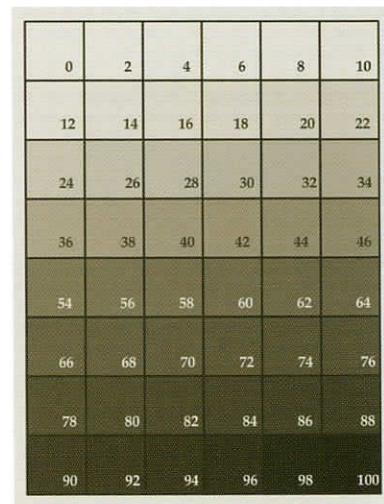

Figure 7-3 A scan of a real test tablet.
If you follow the steps for determining the precise exposure, ideally only the last square in the step tablet (100) will be pure black or DMax. In reality, it is likely that a few squares near to this value will also be pure black. Do not worry about this; the correction curve that you are creating will be calibrated to your specific exposure. If there are no pure black or pure white squares in your step tablet, then your exposure is too long or too short, respectively. Revisit your exposure test; often there is something in your process that you did not repeat in exactly the same manner as you did for your exposure test. A common mistake is not to set the printer settings exactly the same. Check for these mistakes before you redo your exposure test (Figure 7-3).